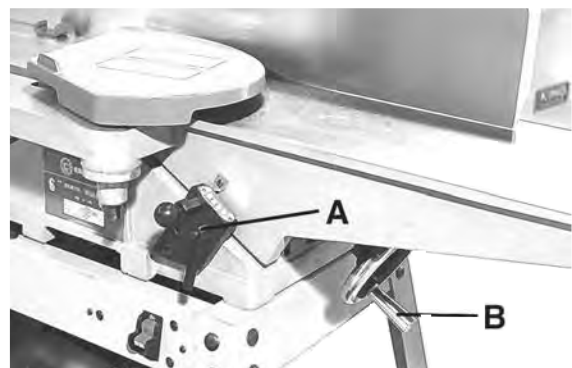

FIGURE 26
1. To raise or lower the infeed table, loosen table lock handle (A) Fig. 26, turn the table raising and lowering handwheel (B) until the table is at the desired position and tighten table lock handle (A).